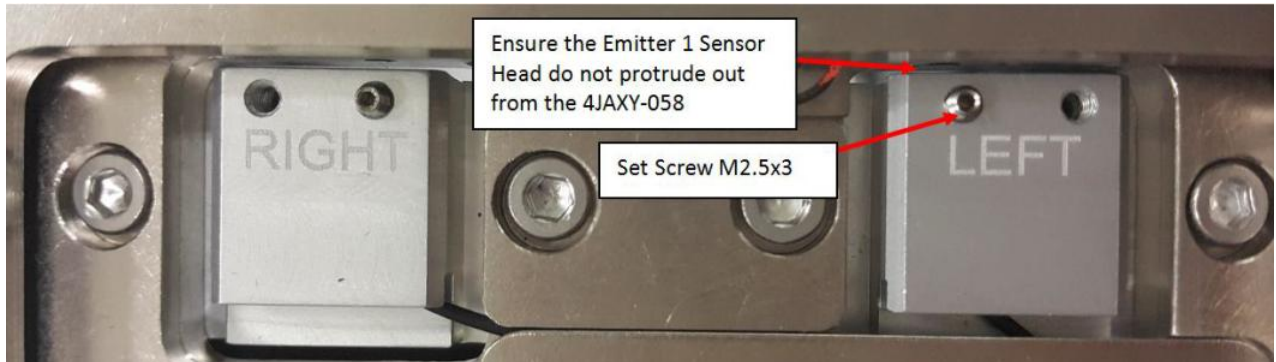

Figure 27 4JAXY-058
5. Ensure sensor emitter 1 head do not protrude from 4JAXY-058 PIP Sensor Mounting Plate 2 as shown in Figure 27
6. Tighten Set Screw M2.5x3 as shown in Figure 27